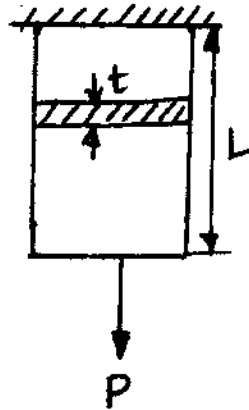

Fig. Q5(a)
- b. Using the principle of minimum potential energy determine the displacement at nodes for a spring system. Fig. Q5(b).